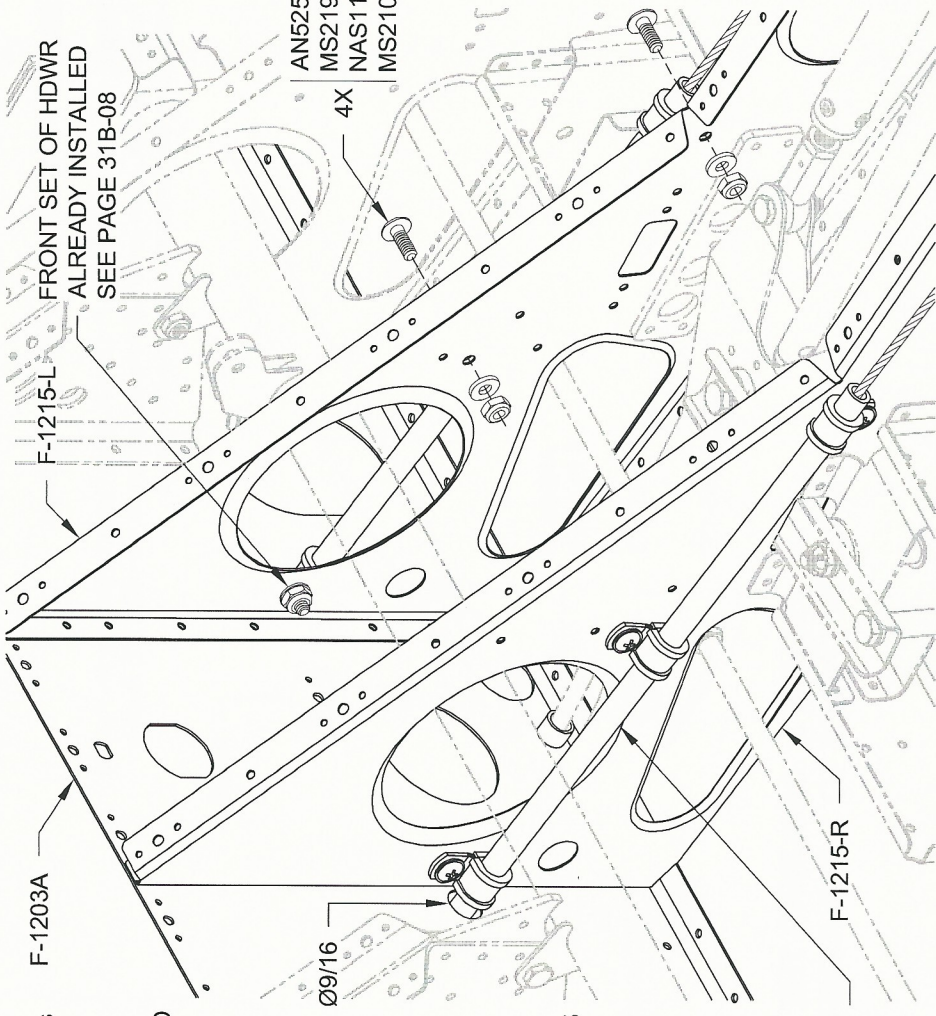
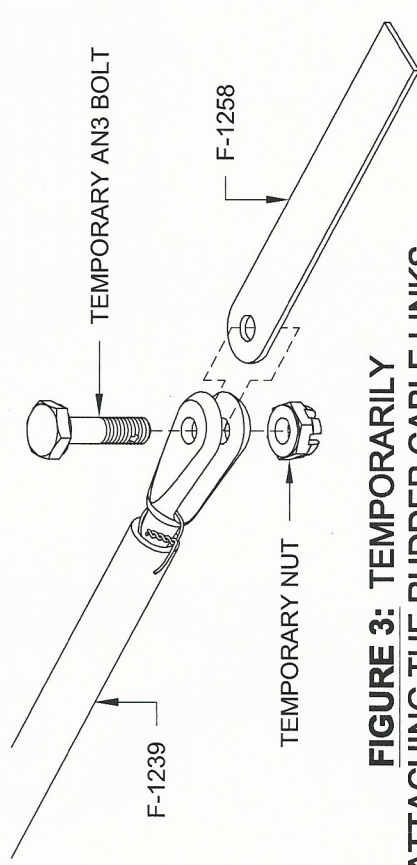

FIGURE 1: SECURING THE RUDDER CABLE PLASTIC SLEEVE
FIGURE 3: TEMPORARILY ATTACHING THE RUDDER CABLE LINKS
Step 1: Route the spade end (not the fork end) of the F-1239 Rudder Cables along with the 1 1/2 inch long plastic sleeve on both rudder cables, forward through the SB750-10 snap bushings in the F-1207B, F-1206A, and F-1204D & A Bulkheads (see Page 21-14, Figure 3 and Page 21-19, Figure 3). Leave the plastic sleeves at the location shown in Figure 1, then continue routing the cable ends through the two Ø9/16 holes in the F-1203A Bulkhead and the two upper SB750-10 snap bushings in the F-1202F Bulkhead.
Step 2: Using the hardware shown in Figure 1, secure the plastic sleeve on both F-1239 Rudder Cables to the three Ø.191 holes in the center F-1215 Seat Ribs (be sure the MS21919 cushion clamps are oriented as shown). The plastic sleeves are to extend through the Ø9/16 holes in the F-1203A Bulkhead and forward of the bulkhead by approximately 3/8 of an inch.
Step 6: Temporarily attach one F-1258 Rudder Cable Link to the fork end of both F-1239 Rudder Cables as shown in Figure 3.